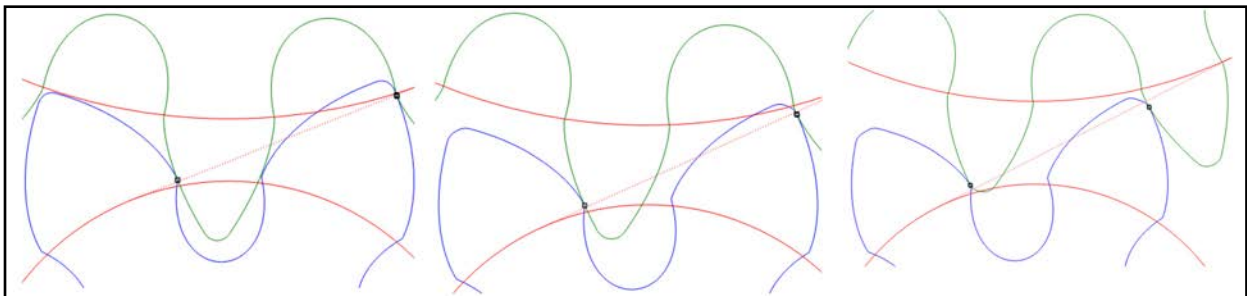

Figure 6 Increased tooth depth according to Figure 5 for narrowest, medium and widest mesh.
**Step 4: meshing optimization.** At first sight the resultant meshing appears unusual, but definitely practical. Seen graphically, the contact ratio over the tolerance range is not optimal — but acceptable (Fig. 6).
The mesh as shown in Figure 6 still exhibits weak points; if tooth flank wear and pitch errors are considered, then, particularly with narrow meshing, the result may be a hard mesh impact or premature contact.